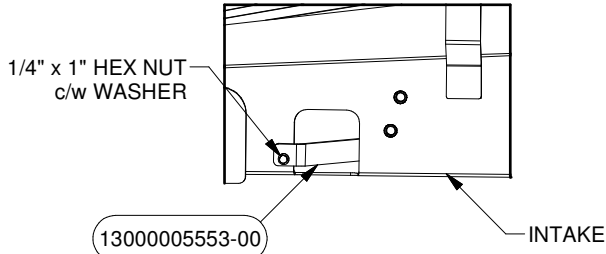

FIGURE 8
15. Attach the Scraper PN# 5553 to the Intake PN# 6640. Insert the other end in to a Rectangular Hole then fasten it using Hex Bolt c/w Nuts and Washer. Fasteners can be found in EPTO /Short Intake Hardware Box PN# 6685/6913 in Bolt Bag PN# 6682/6915. See Figure 8 for details.